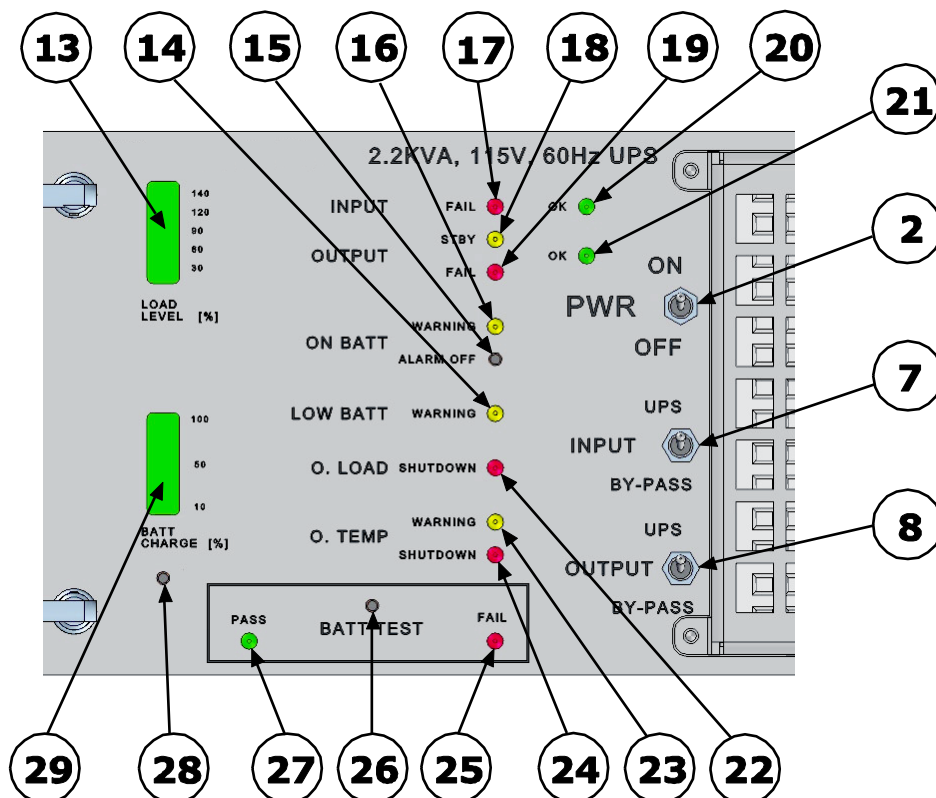

Figure 4: Front Panel, Indicators and Controls
1. Visual Indicators and Controls (for detailed view see Figure 4).
3.2 Front Panel: Indicators and Controls (Figure 4)